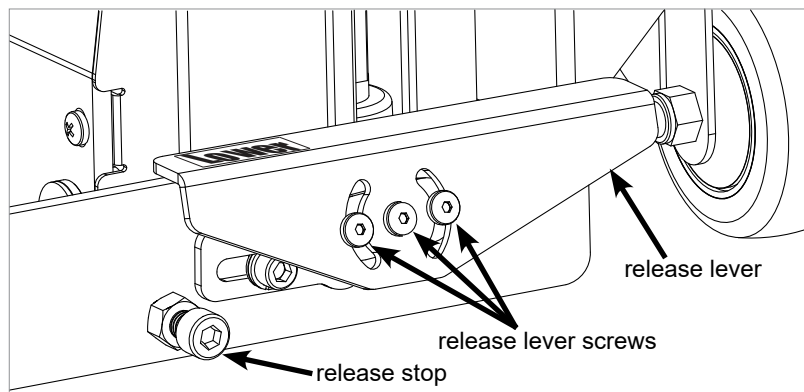

Fig. 4
1. Loosen the three screws in the release lever with a 3 mm hex key (see Fig. 4). Do not remove the screws. Once the three screws are loose, the release lever will rotate around the center screw.